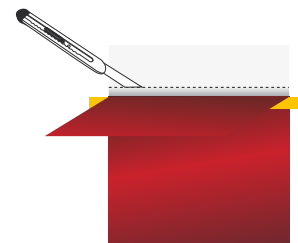

Figure03
- Retirer 10 cm de liner. (FIG. 03)